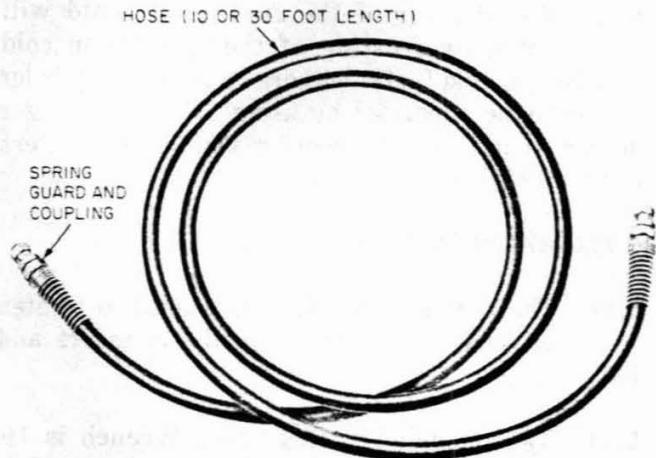

Fig. 4—E Pressure Hose
5.07 The E Pressure Hose is available in lengths of 10 and 30 feet and is equipped at each end with a spring guard and coupling as shown in Fig. 4.